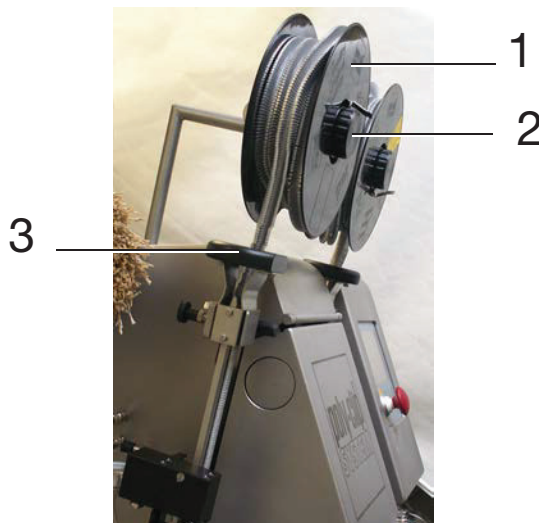

Fig. 5-7    1 Clip reel
- Push the clip reel (1, Fig. 5-7) onto the magazine spindle so that the clip ends of the hanging clip stick point outward.
- Set the reel brake (2, Fig. 5-7) to medium, see section 5.4.3
- To set the reel brake (2, Fig. 5-7), turn the knurled nut.